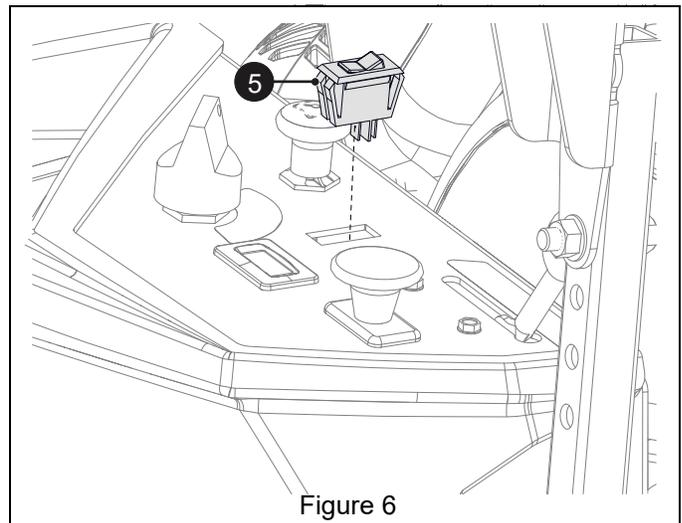

Figure 6
8. Remove blank plug from control panel and install headlight switch (item 5) in its place. See Figure 6.